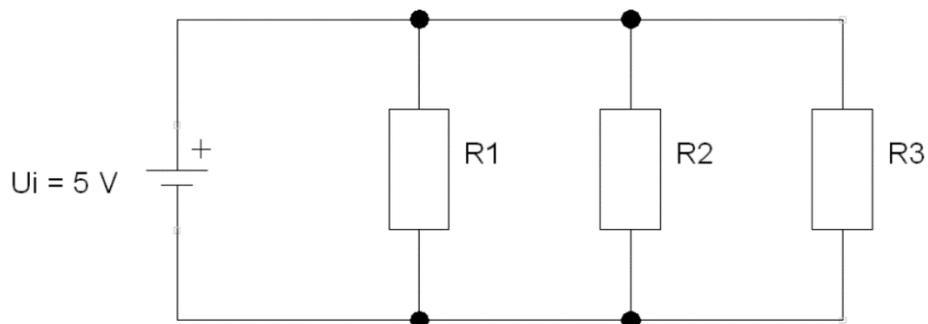

Figure 4.4: Resistors in parallel electrical circuit
4.3.1) The three resistors are connected in parallel to a direct voltage source. The parallel electrical circuit scheme/diagram is shown in the Figure 4.4.